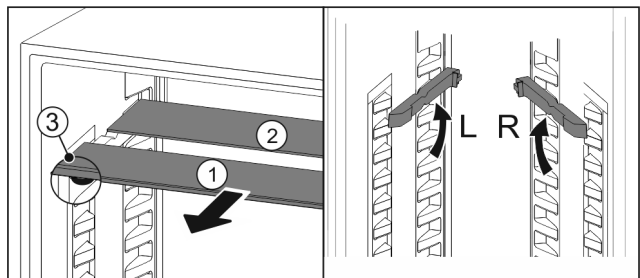

Fig. 117
- ▶ Pull the glass panels out Fig. 117 (1) from the front, one at a time.
- ▷ The glass panel Fig. 117 (1) and trim strip are at the front.
- ▷ The stops Fig. 117 (3) point down.